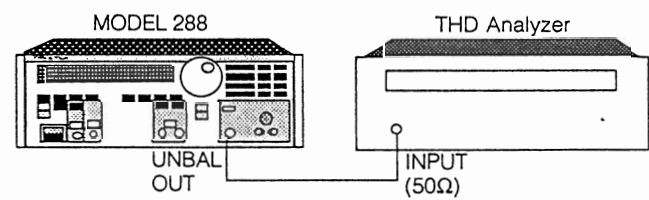

Figure 2-7. Sine Purity Measurement
2. Connect the Model 288 and test equipment as shown in figure 2-7.